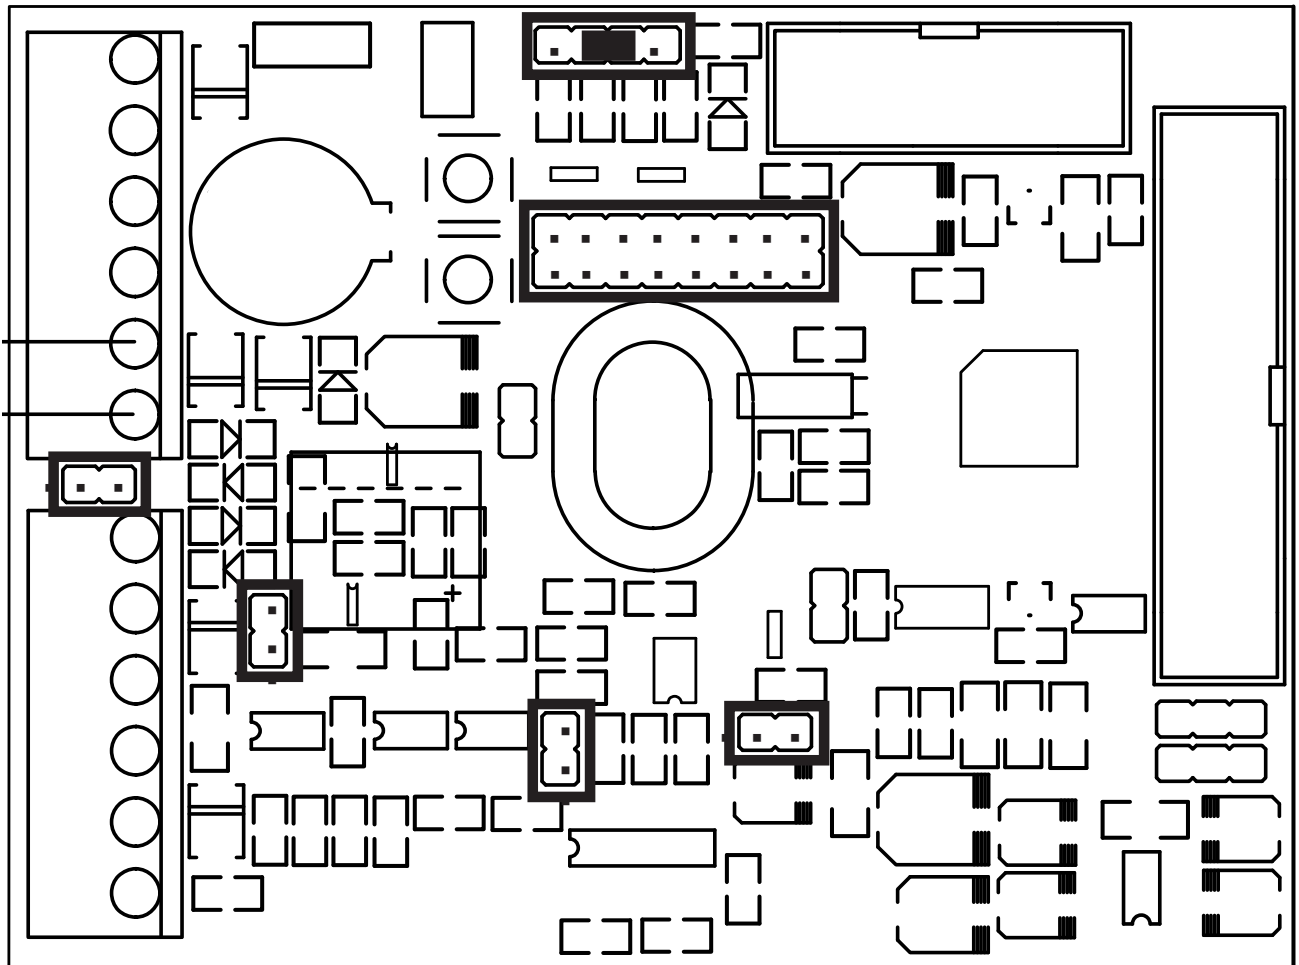

Fig. 14
- **J10** must be plugged always at the middle position, see fig. 14!
Blank board (Fig. 14):